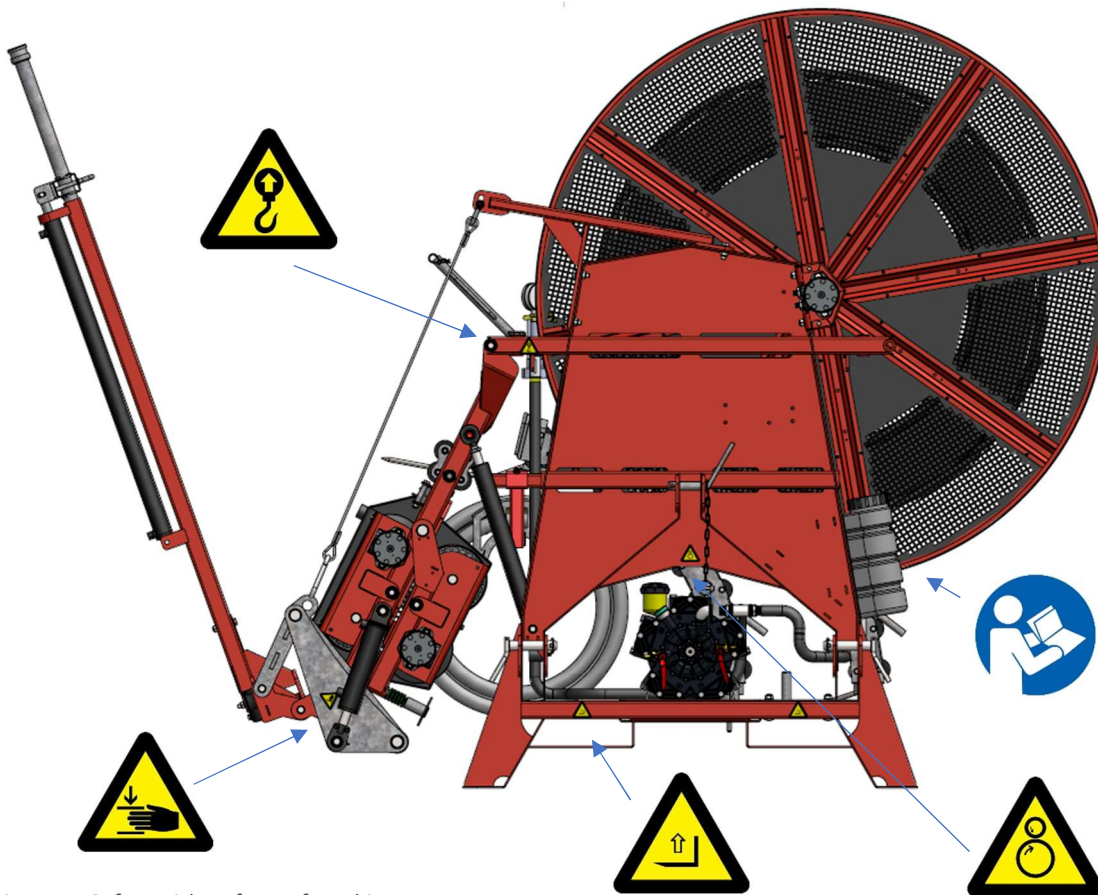

Figure 4 - Safety stickers front of machine
- A. Stickers, see figures 4 and 5.